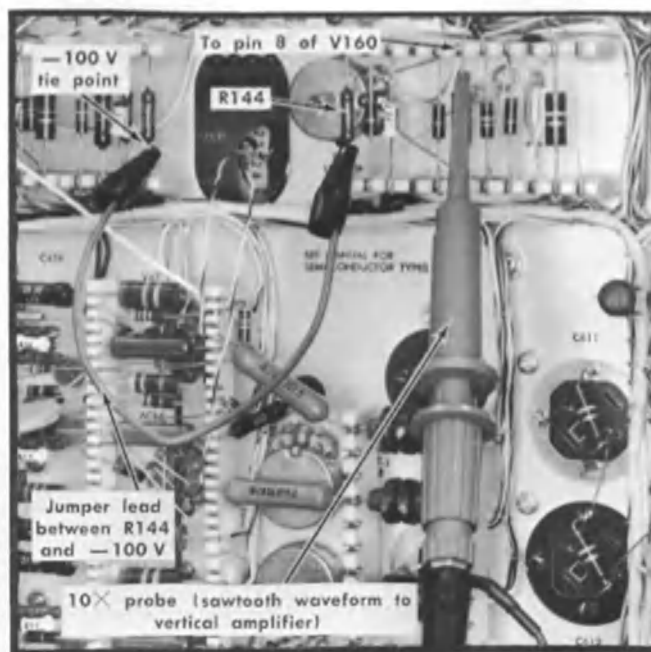

Fig. 6-20. Method of obtaining sawtooth waveform for Horizontal Amplifier attenuator adjustments.
- Connect a short jumper lead between R144 and the -100 V supply, as shown in Fig. 6-20.
- Connect a 10X probe from the VERTICAL +INPUT connector to pin 8 of V160, as shown in Fig. 6-20.